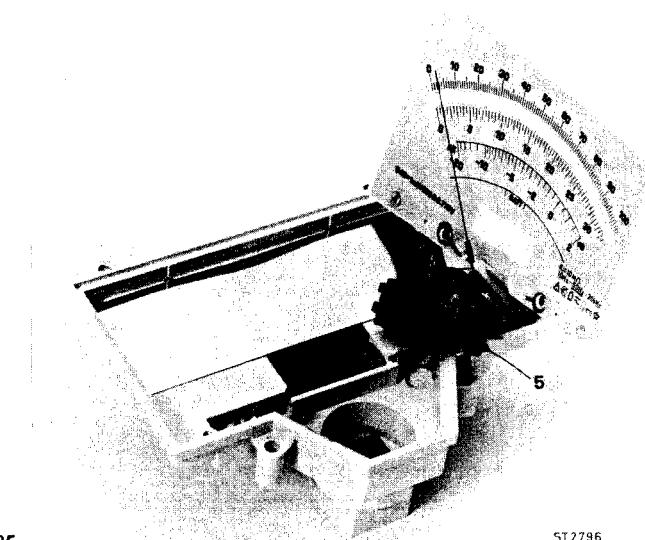

Fig. 18. Replacing the polarity indicator
- Lever the window from the container by putting e.g. a screwdriver in the lever point (item 4).
- Unsolder the screen-wire (item 2).
- Remove the two screws (item 1) which fix the measuring system to the container.
- Take the measuring system out of the container, place it on the container (Fig. 18).
- Take care that the counter-balance assembly (item 5) is not touched.
- Fix the measuring system to the container with the two fixing screws. Ensure that the top of the scale is fitted under the two fixing clips (item 3).
- Solder the screen-wire to the measuring system again (item 2)